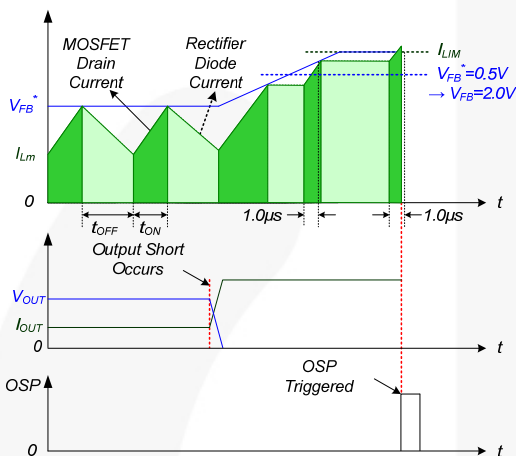

Figure 24. Output-Short Protection
4.3. Output-Short Protection (OSP): If the output is shorted, steep current with extremely high di/dt can flow through the SenseFET during the minimum turn-on time. Such a steep current creates high-voltage stress on the drain of the SenseFET when turned off. To protect the device from this abnormal condition, OSP is included. It is comprised of detecting V_{FB} and SenseFET turn-on time. When the V_{FB} is higher than 2.0V and the SenseFET turn-on time is lower than 1.0 μ s, this condition is recognized as an abnormal error and PWM switching shuts down until V_{CC} reaches V_{START} again. An abnormal condition output short is shown in Figure 24.